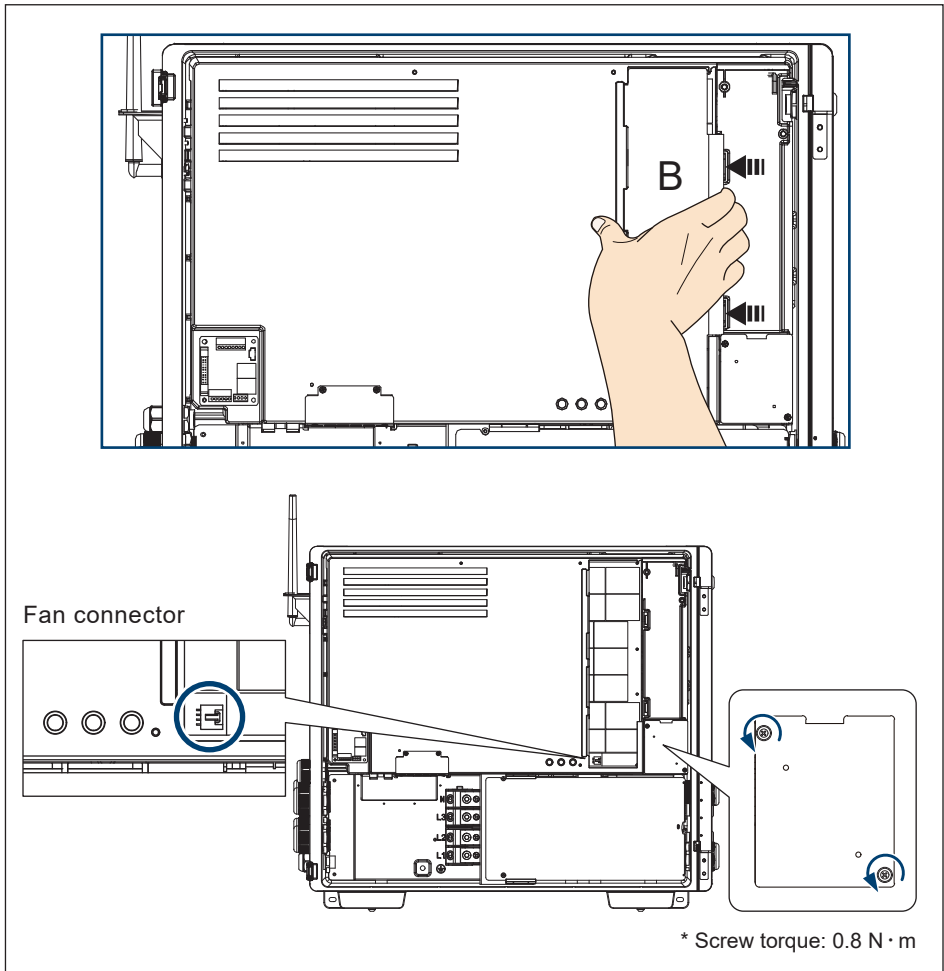

Figure 5-9: Internal fan 1 location & remove the shield cover
- (1) Remove the B cover.(**Figure 5-9**)
- (2) Disconnect the power connector on the LED board.(**Figure 5-9**)